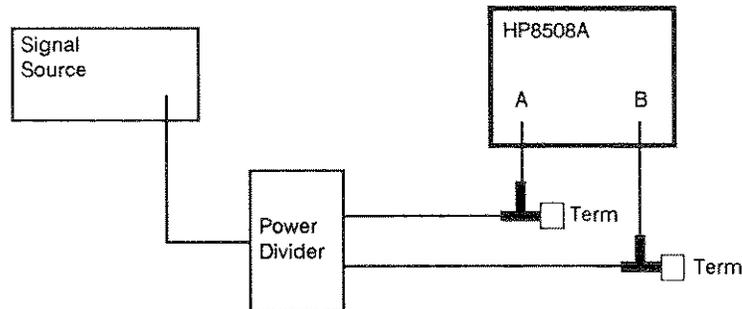

Figure 5-17. LF Phase Adjust Setup
1. Configure the equipment as shown in Figure 5-17.